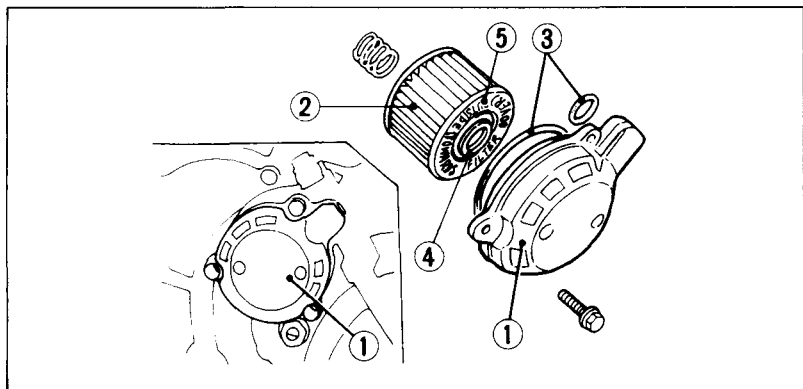

Fig. 4-13
(1) Oil drain plug
3. Remove the oil filter cover (Fig. 4-13) by removing the screws. Let the remaining oil drain out. Discard the oil filter (2).
4. Check that the oil filter cover O-rings (3) are in good condition and then install a new oil filter. Use only the Honda genuine oil filter or a filter of equivalent quality specified for your model. Using the wrong Honda filter or a non-Honda filter which is not of equivalent quality may cause engine damage.